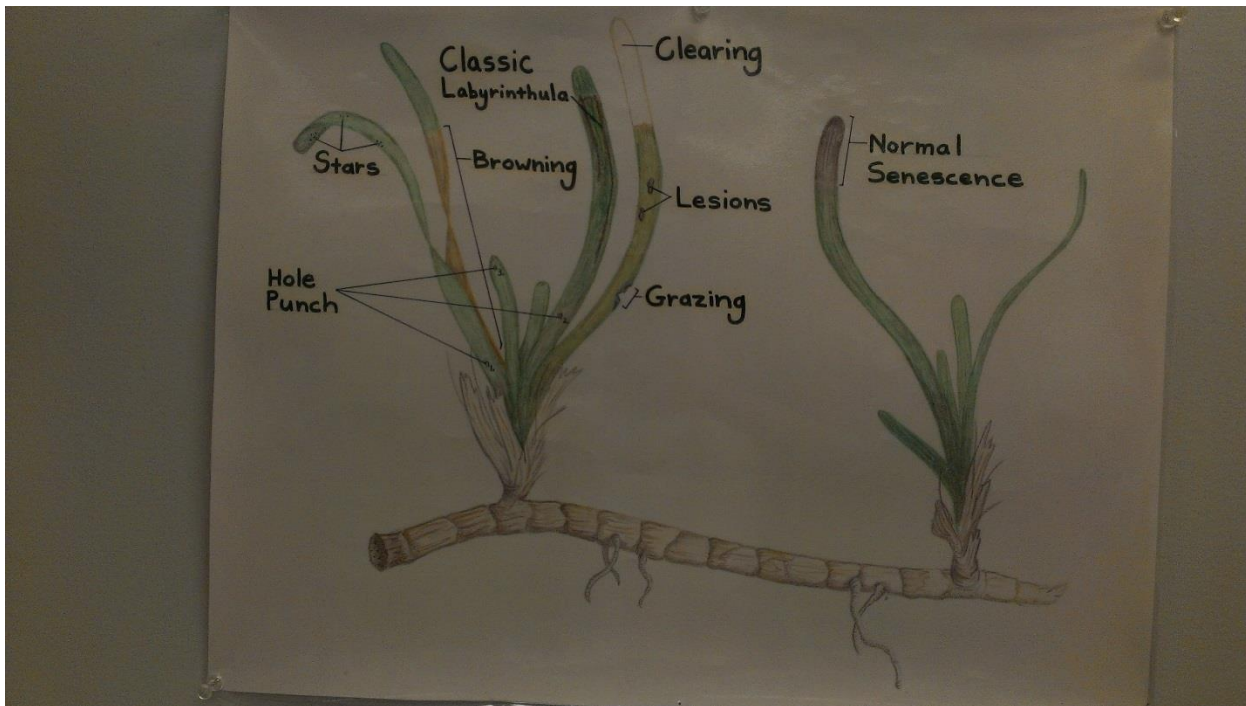

Figure 1. Types of damage to *Thalassia* blades.
- F) Note the tip condition (see Appendix 2 for codes), whether complete (P=point) or broken (B), and the type of damage evident on the blade. See Figure 1, below, for description of the types of damage. Note the location of the damage, the extent and pattern. You may note >1 location and pattern, but write down just one entry for extent.